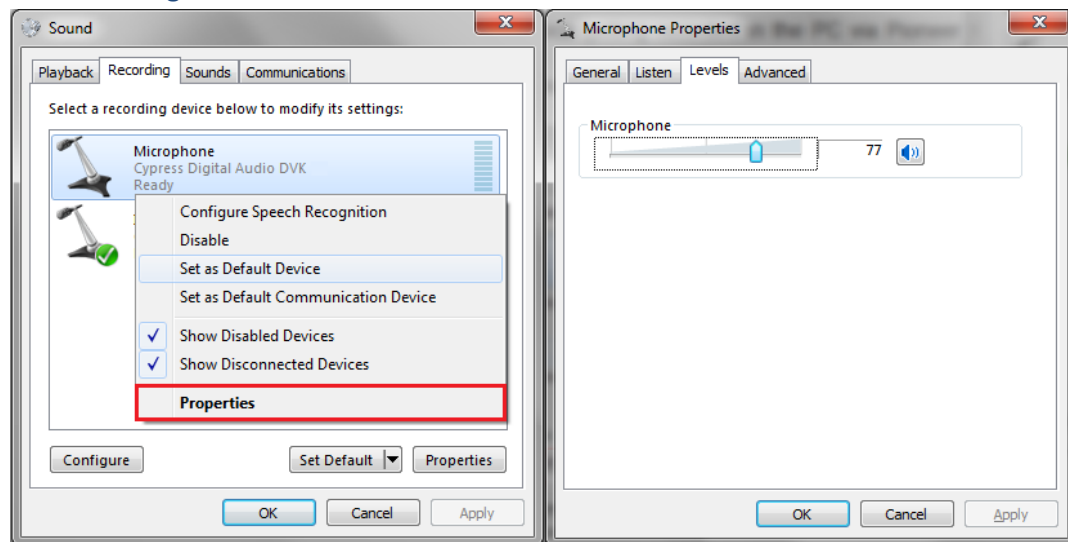

Figure 16: Recording Volume update in Windows 8 / 7
- The volume level of the recorded audio can be updated in *Levels* tab in *Properties* window of *Cypress Digital Audio DVK*. See Figure 16